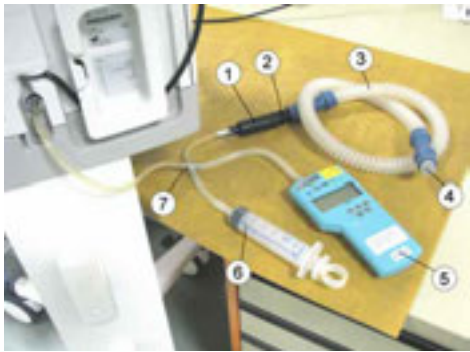

Fig. 11 Test setup: LPO leakage test (option)
- Using an approximately 40 cm silicone tube (4 x 1.5), connect the manometer (Fig. 11/5) to the cross-piece (Fig. 11/7).
- Using an approximately 30 cm silicone tube (4 x 1.5), connect the syringe (Fig. 11/6) to the cross-piece.
- Using an approximately 40 cm silicone tube (4 x 1.5), connect the connecting sleeve (Fig. 11/1) to the cross-piece.
- Plug the ISO connector (Fig. 11/1) into the connecting sleeve (Fig. 11/2).
- Plug the breathing tube (1.20 m) (Fig. 11/3) onto the ISO connector (Fig. 11/2).
- Seal off the free end of the breathing tube using a rubber plug 22/25 (Fig. 11/4).
- Using the syringe (Fig. 11/6), generate a negative pressure of -8 mbar.
- Read the pressure value off the manometer (Fig. 11/5).